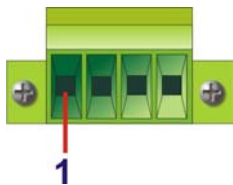

Figure 3-20: 4-pin Terminal Block Pinout Location
- CN Pinouts: See **Table 3-5** and **Figure 3-20**